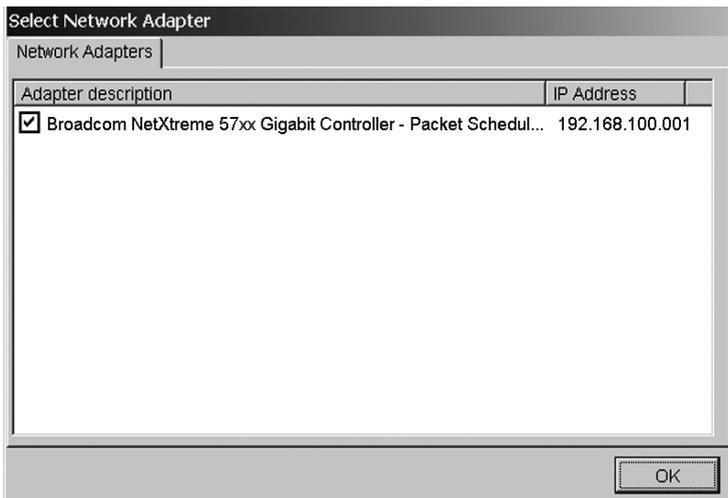

Figure 18. Select the network adapter used to connect to the C-Touch Colour
7. If your PC has multiple network adapters (that are enabled), you see a list of available network devices. If the screen is not displayed, click Select Network Adapter from the Search menu. Select the network adapter where the patch cable is connected and Click OK (see Figure 18).